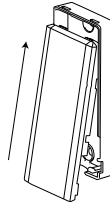

Figure 7: Closing the device cover
4. Clip the covers on to the device and magnet base (see Figure 7).